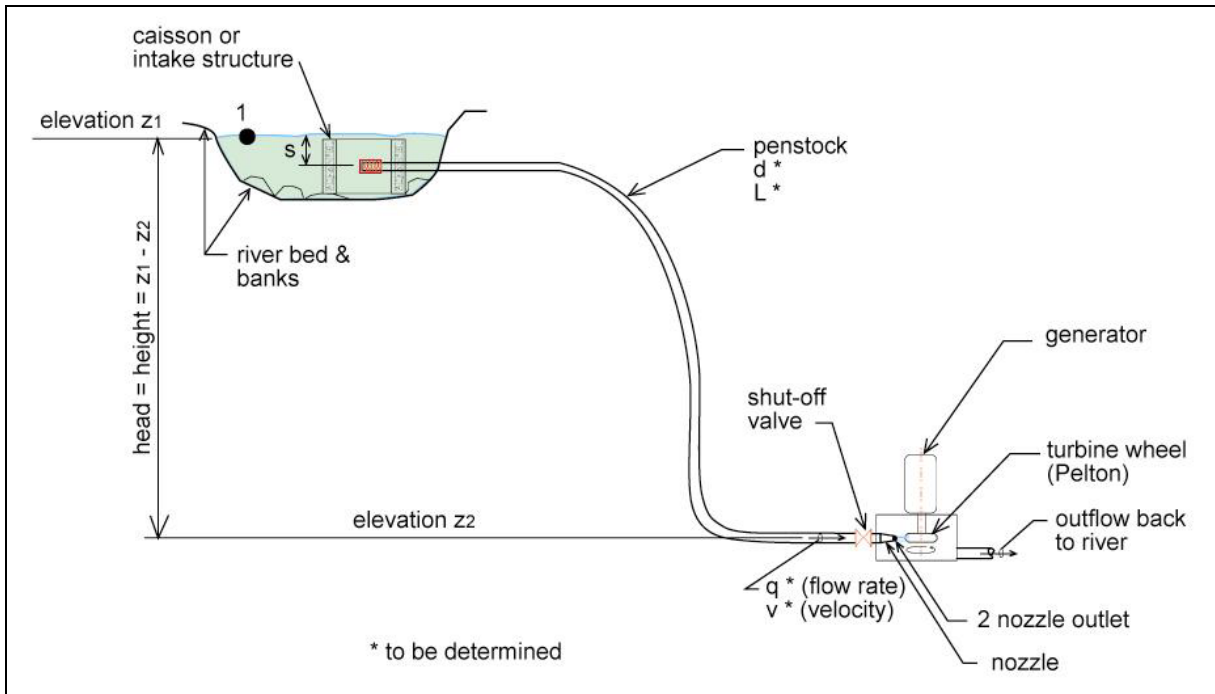

Figure 1. Typical micro-hydro installation.
Calculations for micro-hydro turbine jet impact velocity are based on the same sort of calculations done for pump systems, except there is no pump. The energy is provided by the difference in elevation between the inlet and outlet of the system (see Figure 1). The inlet (point 1) is defined as the surface elevation of the water source and the outlet is at the nozzle outlet (point 2).
The velocity v_1 is the velocity of fluid particles at the water source surface (see Figure 1), this velocity will be quite small and negligible, $v_1 = 0$. The velocity v_2 is the velocity of the water jet at the nozzle; this is the quantity we are looking for. The pressure head H_1 corresponds to any external pressure that might be imposed at point 1, in this case it is zero, $H_1 = 0$. The pressure head H_2 is the pressure at the outlet of the nozzle, since the water jet comes out in the free atmosphere $H_2 = 0$. H_F is the friction loss between points 1 and 2, it is comprised of the pipe friction loss, filter intake loss, fittings and manual valve losses. g is the acceleration due to gravity, $g = 32.17 \text{ ft/s}^2$. If we replace these values into equation (1) we obtain: